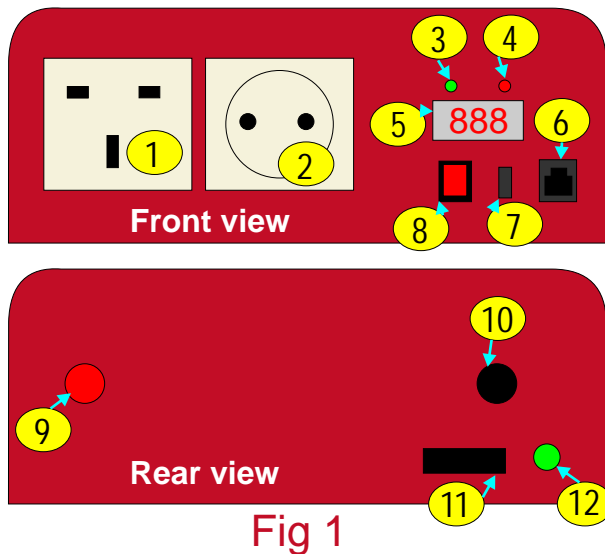
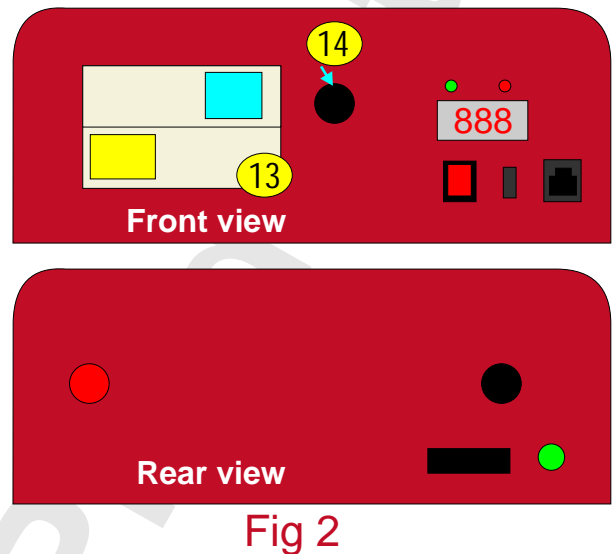

Fig 1
Fig 2
To convert Option 1 type unit from Centre tapped earth to Neutral earth bonded simply connect the enclosed link (small fuse) into position 11 on Fig 1.
by removing the small link cover at the rear of the unit under the inserting the small fuse link into the rear of the unit under the neg gable/connector, then insert the small fuse link and re cover, the unit is now Neutral earth bonded . (Position 11 in Fig 1). This will ensure the safe operation of the RCD.
9) **This unit comes standard as centre tapped, and must be converted to neutral earth bonding before installation** Ensure the Neutral bonding link is connected (small fuse) in position 11 in fig 1 (same position on Fig 2, remove the cover and insert the small fuse in that link, the unit is supplied without that link inserted. by inserting the link the unit becomes neutral earth bonded, essential for the operation of the RCD